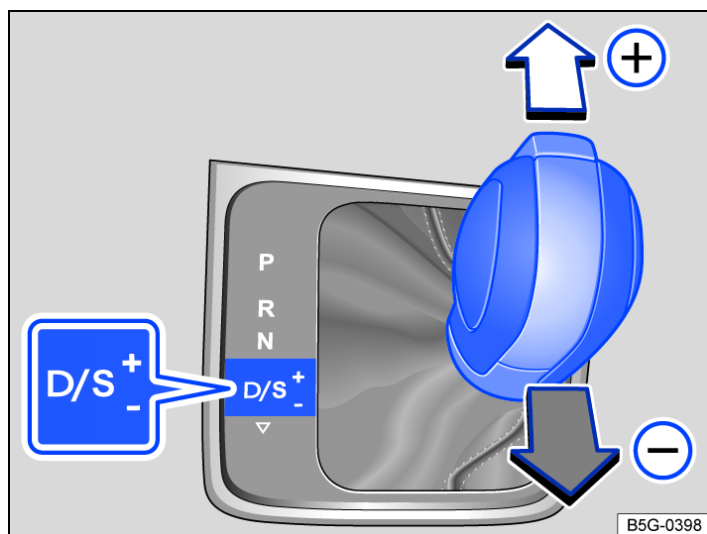

Fig. 1 Selector lever in Tiptronic position (left-hand drive).
- Touch the selector lever forwards  or back  to shift gear up or down → Fig. 1.